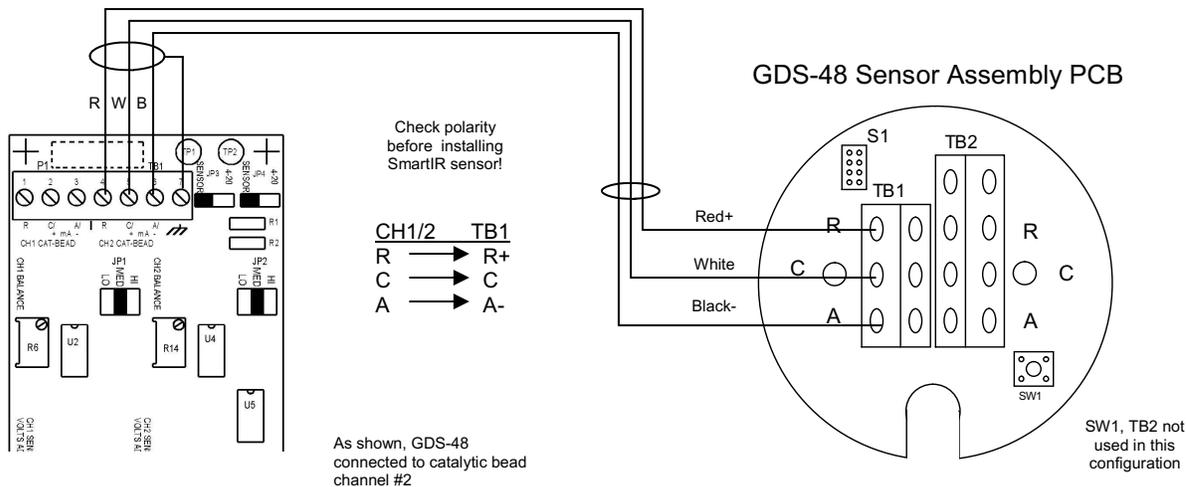

Fig 4. C2 Controller to GDS-48 Wiring Diagram for SmartIR
- 3) Connect the C2 to the remote sensor housing as shown in Fig. 4. (R = Reference Bead(+), C = Common, A = Active Bead(-))